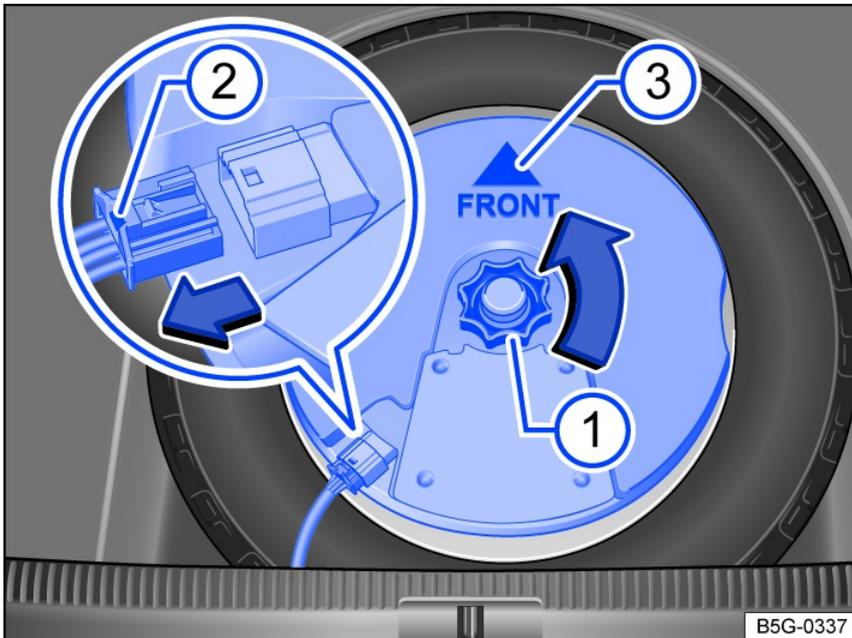

Fig. 209 In the luggage compartment: removing the subwoofer (version 2).
- Remove the handle *fig. 209* in the direction of the arrow.
- To release the connector, press the locking mechanism on the end of the connector *fig. 209*.
- Place the subwoofer carefully in the rim well. The point of the “FRONT” fig. 209 arrow symbol on the subwoofer must face forward
- Connect the connector until the lock fig. 209 latches into place.
- Screw the handle fig. 209 into the thread in the opposite direction of the arrow until the subwoofer is securely attached.